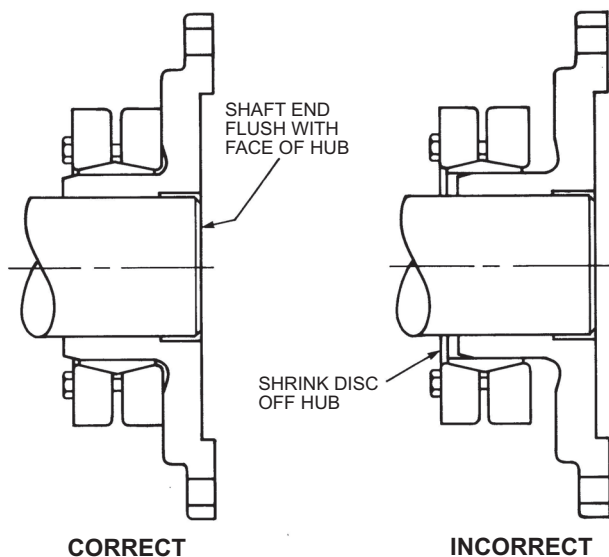

Figure 2
- (3) Position the shrink disc on the coupling hub. The hub outside diameter can be greased to aid assembly. Make sure the shrink disc is fully seated on the hub and is not jammed in the radius in the corner. See Figure 2.